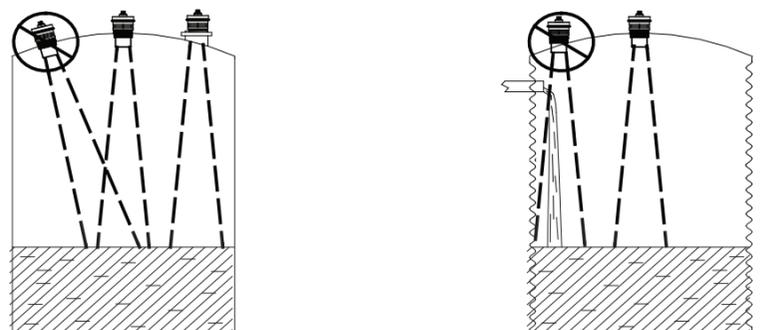

Figure 4.1
- Mount your MNU IS sensor so that it has a clear, perpendicular sound path to the surface being monitored. Your sensor should be mounted away from tank or vessel walls and inlets. (See Figure 4.1)